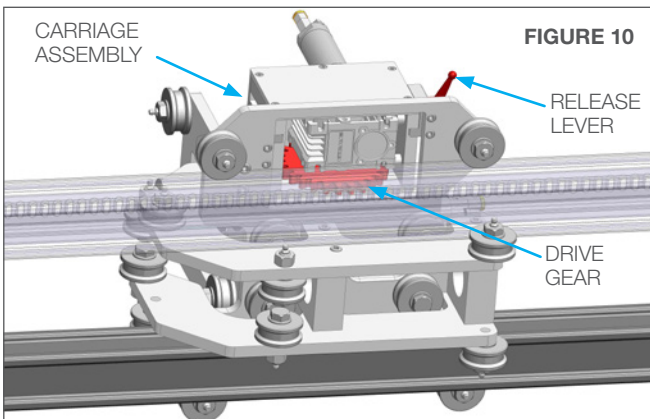

FIGURE 10
- Disengage the drive gear from the slotted rail by releasing the lever on the motor. **(Figure 10)**